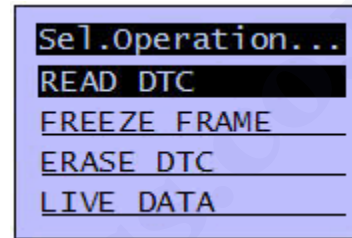
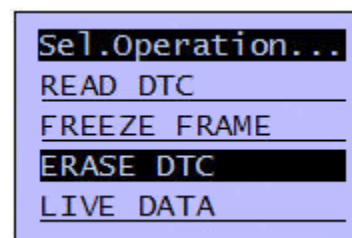

Figure 13
Figure 18
10. As instructed, press  to continue and it will enter into the main menu (Figure 13).
(Figure 13), pressing  key will proceed to the selection choice. (Figure 14).
To start this function, go back to the previous menu (Figure 13) and select "Erase DTC" as shown (Figure 18) by
To Exit this function, press  key will return back to the main menu screen (Figure 18).
To start this function, go back to the previous Menu (Figure 13) and select 'Live Data' row as shown (Figure 21).
To Exit this function, press  key will return back to the main menu screen (Figure 13).